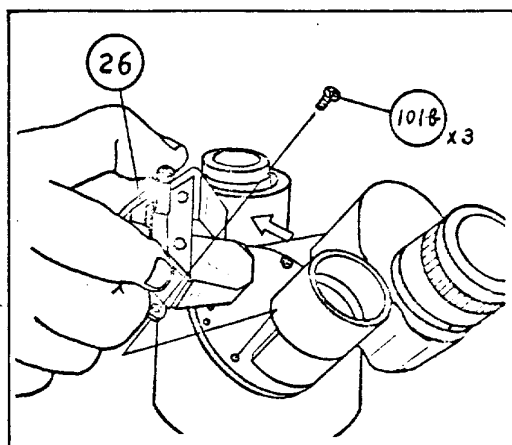

Fig. 7
- 5) Unscrewing the screws (101-b)  $\times 3$ , remove the prism seat (26) or (25) with the prism (Fig. 7).